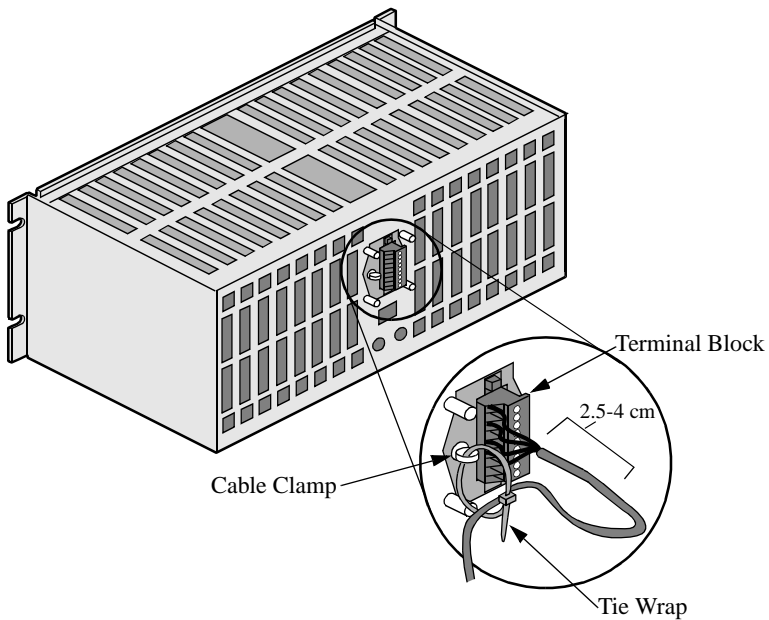

Figure 1-13. AccessWay Terminal Block and Cable Support
8.	<p>Attach the cable clamp (Figure 1-13; provided with the AccessWay) to the wire bundle at the rear of the AccessWay. Leave a service loop of at least 8 cm between the clamp and the terminal block, and secure the clamp to the screw at the left of the terminal block.</p> <p>Ensure that any strain is relieved from the cable terminals, and that the power terminal block is easily accessible should you need to remove it quickly in an emergency.</p>